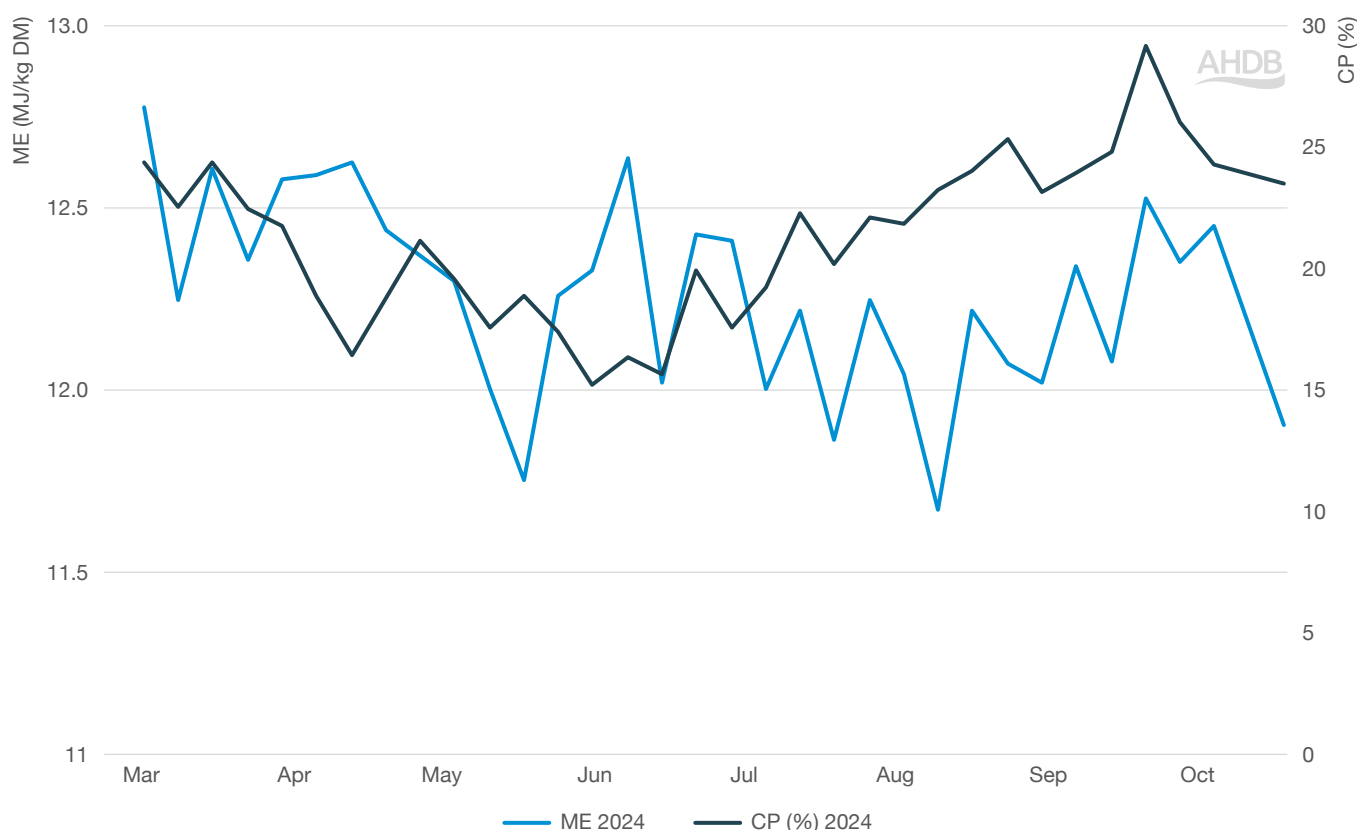

Figure 22. Crude protein (CP) and metabolisable energy (ME) content throughout the grazing season on Forage for Knowledge (FFK) contributor farms
Early spring grass is very digestible and high in crude protein (CP) and metabolisable energy (ME) (see Figure 22). Spring grazing is established by planning during the previous autumn.